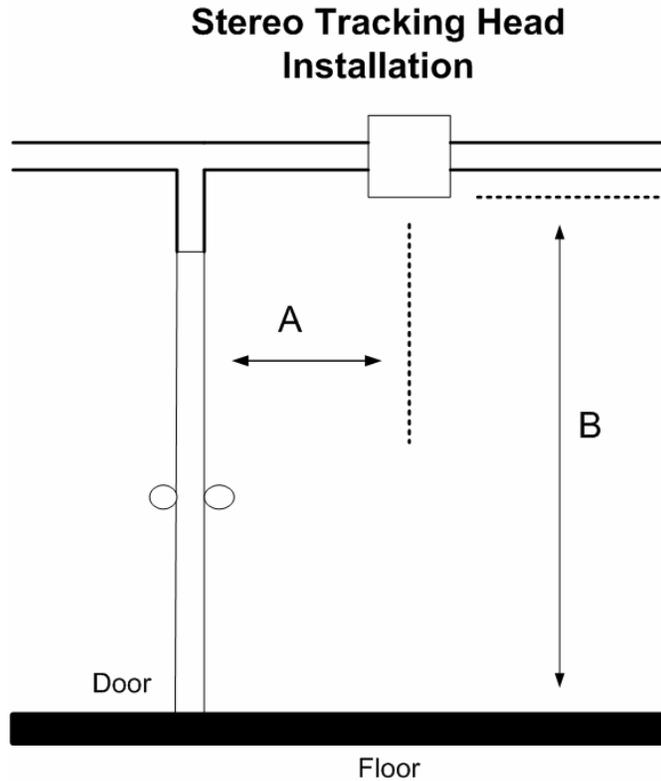

Figure 16 - Stereo Tracking Head Reference
Please see figure 16 for Installation Guide
1. Ensure that the stereo tracking head is mounted in the correct location according to the chart in Figure 16.